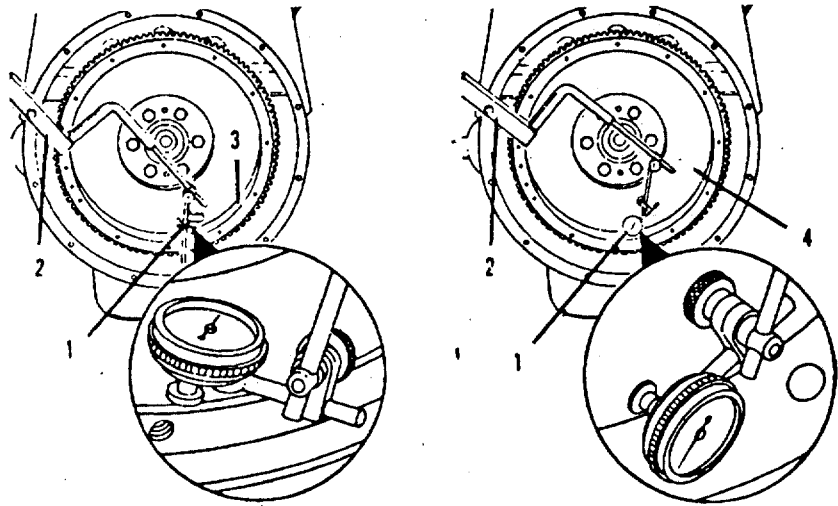
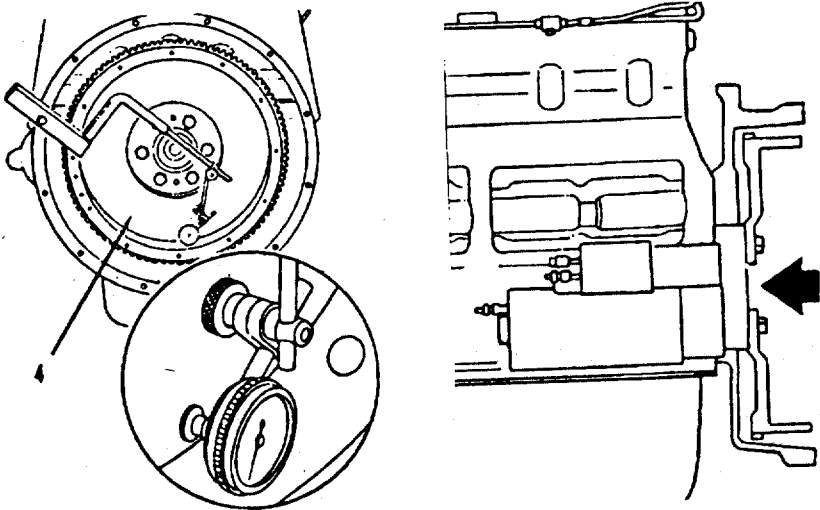

FIGURE 3-99. Measuring Flywheel Bore Runout.
FIGURE 3-100. Checking Flywheel Face Runout.
Use a dial indicator gauge (1) or its equivalent and a gauge attachment (2) to inspect the flywheel bore (3) and the surface (4) runout (FIGURE 3-99) .
- 4 Install the flywheel, and inspect the bore runout again (FIGURE 3-99) .
- (3) Measure the flywheel face runout.
- (a) Install the contact tip of the indicator against the flywheel face, as close to the outside diameter as possible, to inspect the face (4) runout (FIGURE 3-100) .